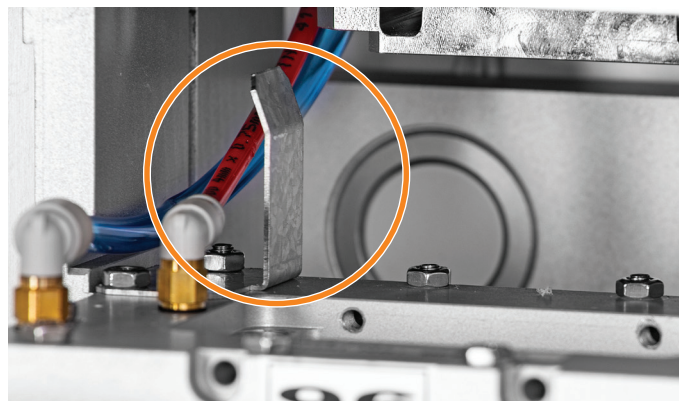

Figure 67. Ensure that the gas tubes are on the left side of the highlighted bracket.
9. Reconnect the gas tubes. Ensure that the tubes are properly fastened by pulling on them, and that the tubes are on the left side of the bracket as shown in Figure 67.